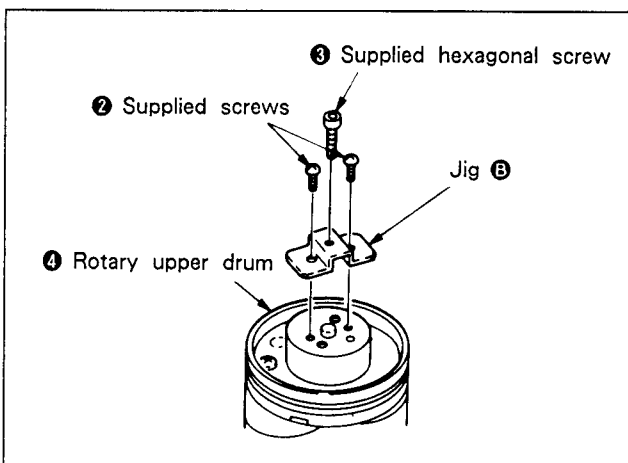

Fig. 7-47.
- 3) Mount the supplied jig **B** (Ref. No. J-10) on the mounting hole with the two supplied screws **2**, and mount the supplied hexagonal bolt screw **3** on supplied jig **B**, then remove the rotary upper drum **4**. (See Fig. 7-47.)